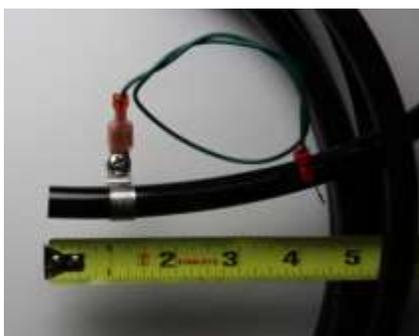

Figure 2-2
4. **Ground and Install the Flexible ESD Tubing:** Place the inlet tubing grounding assembly (see Figure 2-1) over the BC 1054 end of the sample tubing. Position the clamp between one and two inches from the end of the tubing (see Figure 2-2) and tighten it until the clamp grips firmly.